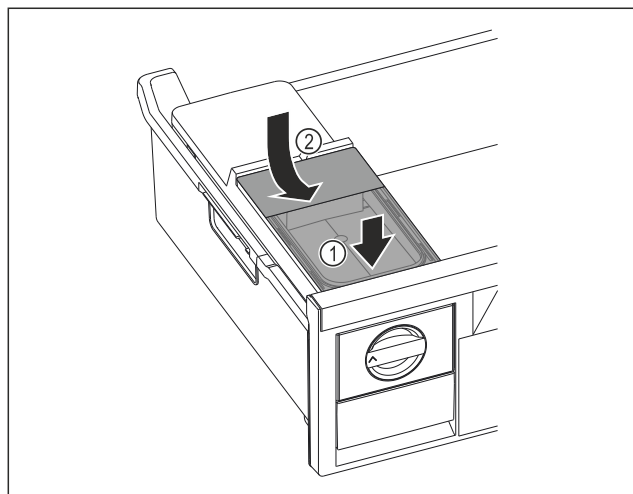

Fig. 111
- ▶ Position the water tank at the front. Fig. 111 (1)
- ▶ Lower the water tank at the rear. Fig. 111 (2)